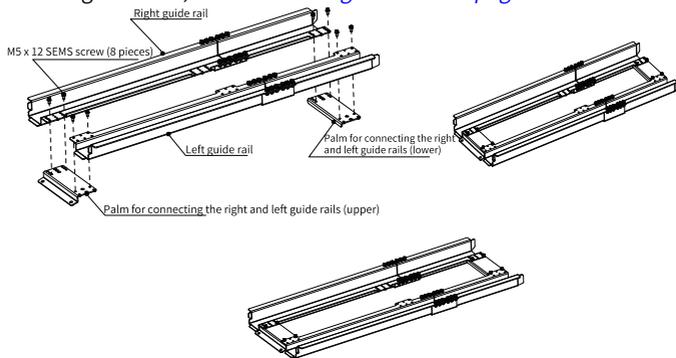

Figure 5-8 Assembling guide rails
a. Assemble the guide rails, as shown in *"Figure 5-8 " on page 83 .*